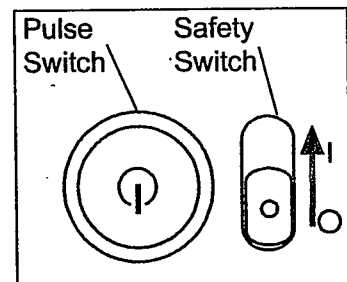

Figure 3
4. To turn on the appliance, first push the Safety Switch from position "O" to "I" then without releasing the Safety Switch, press down on the Pulse Switch. **KEEP HANDS AWAY FROM BLADE!** See Figure 3.